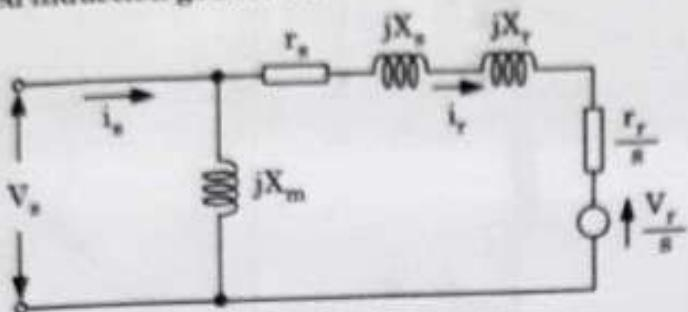

Fig. 1.7.2.
- B. **Equivalent circuit :** In Fig. 1.7.2 shows the equivalent circuit of doubly-fed induction generator.